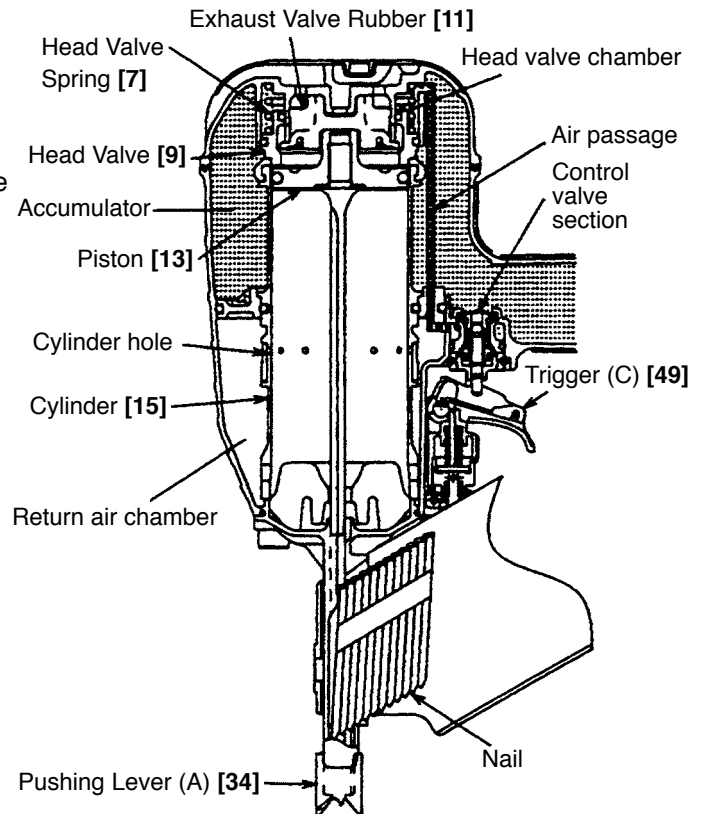
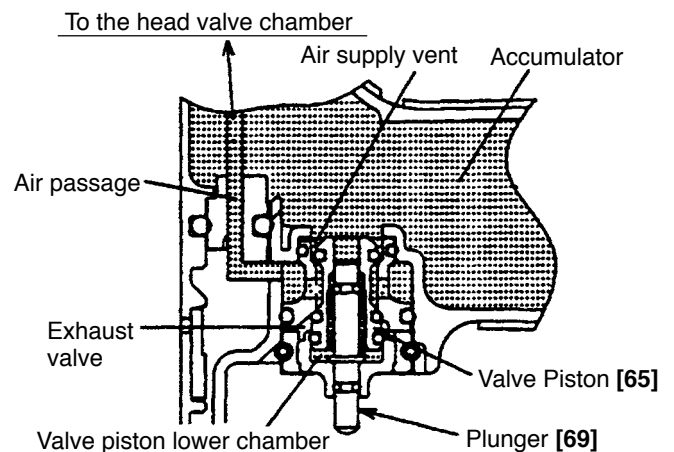

Fig. 4
Fig. 5 Control valve section
(1) Before nailing (See Fig. 4 and Fig. 5.)
(2) When nailing (See Fig. 4 and Fig. 5.)
- 3) When Trigger (C) [49] is released, the Plunger [69] returns (lowers) completely as shown in Fig. 5. Compressed air then flows into the valve piston lower chamber, and the Valve Piston [65] is forced upward. The Piston [13] then returns fully upward. Therefore, unless Trigger (C) [49] is released after each nailing operation, the structural mechanism prevents the next nailing operation.